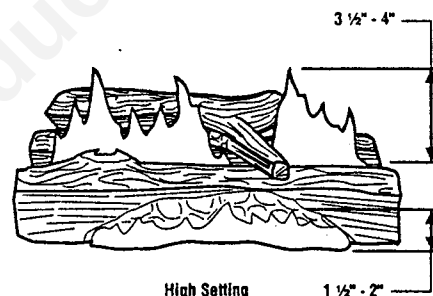

Figure 33
**Step 8. Burner Adjustments** – The JØTUL Classic 3 Direct Vent is equipped with a two stage (HI, LOW) gas control valve. This valve provides for easy flame height adjustment. To cycle the burner between the HI and LOW settings, rotate the HI/LOW knob, located in the center of the valve front face, clockwise and counterclockwise respectively. Flame height will increase approximately 2" to 2 ½" when in the HI mode as referenced against the LOW mode. Flame height and appearance should be as shown in Figure 33. The following paragraphs detail flame appearance and adjustment. **Make all adjustments as described with HI/LOW knob set to HI.**
When returning to service, verify proper flame characteristics as described in Step 8, refer to Figure 33.